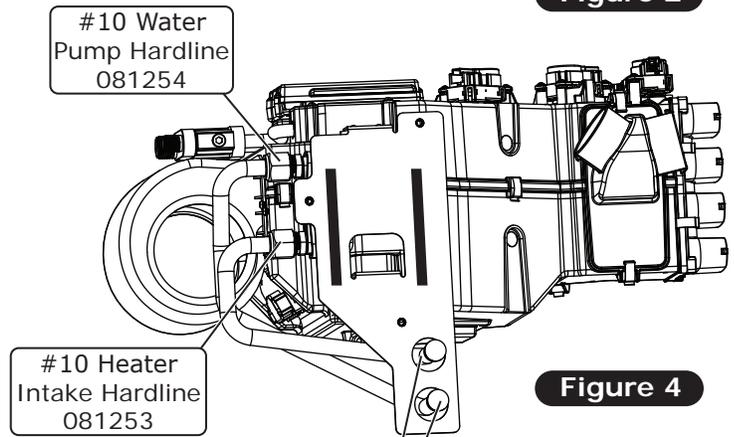

Figure 4
8. Install (2) heater hardlines with properly lubricated #10 O-rings (See Lubricating O-rings, Page 22). Using a 1 1/16" wrench, or wrench provided with the condenser kit, and a backing wrench on the evaporator module fittings, center the heater lines into the corresponding holes on the bracket and tighten (See Figure 4, below).